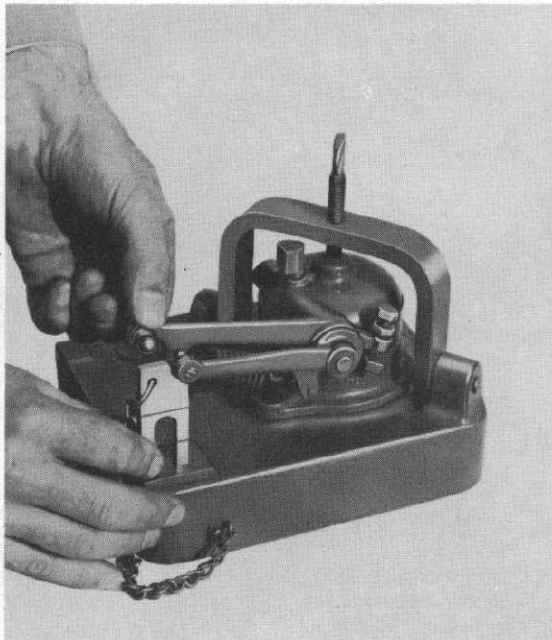

Fig. 6
- a. Clamp the housing in the gauge as shown in Figure 6.